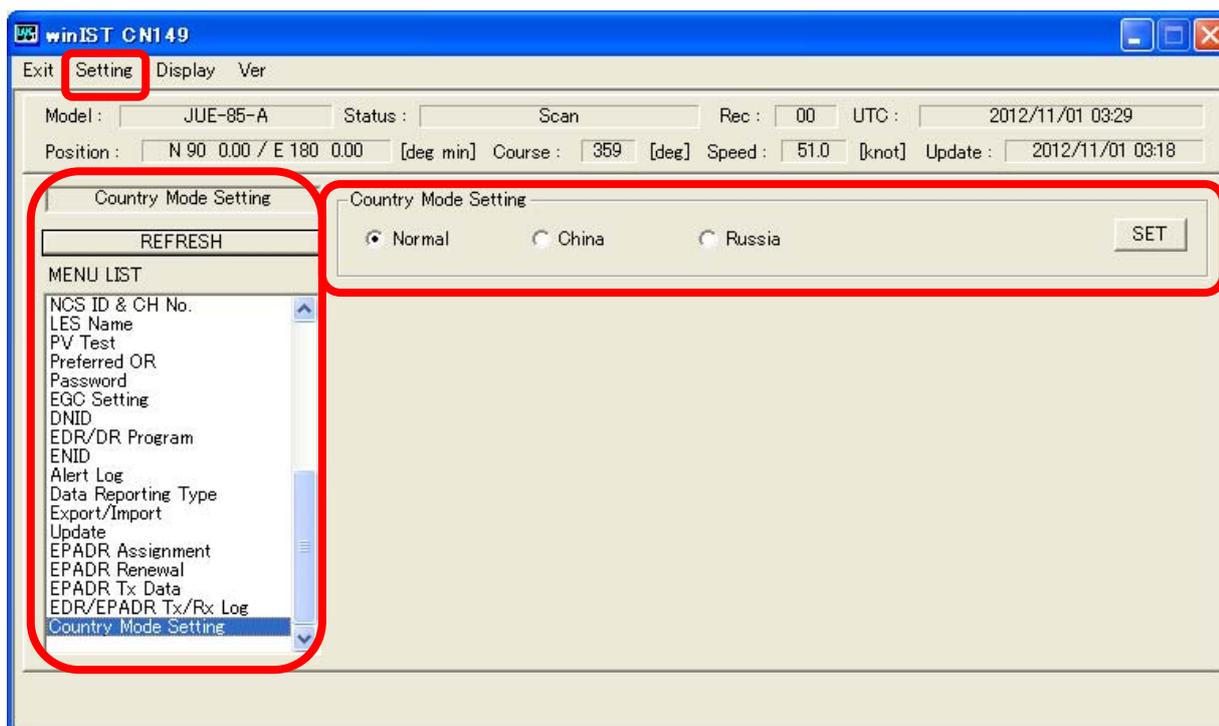

Fig. 4-38-1 [Country Mode Setting] screen
2. Operation except [Exit], [Display], and/or [Ver] is not possible while winIST is communicating with INMARSAT terminal(the function in the frame of **Fig. 4-38-1 [Country Mode Setting] screen** cannot be operated.)
4. Operation except [Exit], [Display], and/or [Ver] is not possible while winIST is communicating with INMARSAT terminal(the function in the frame of **Fig. 4-38-1 [Country Mode Setting] screen** cannot be operated).